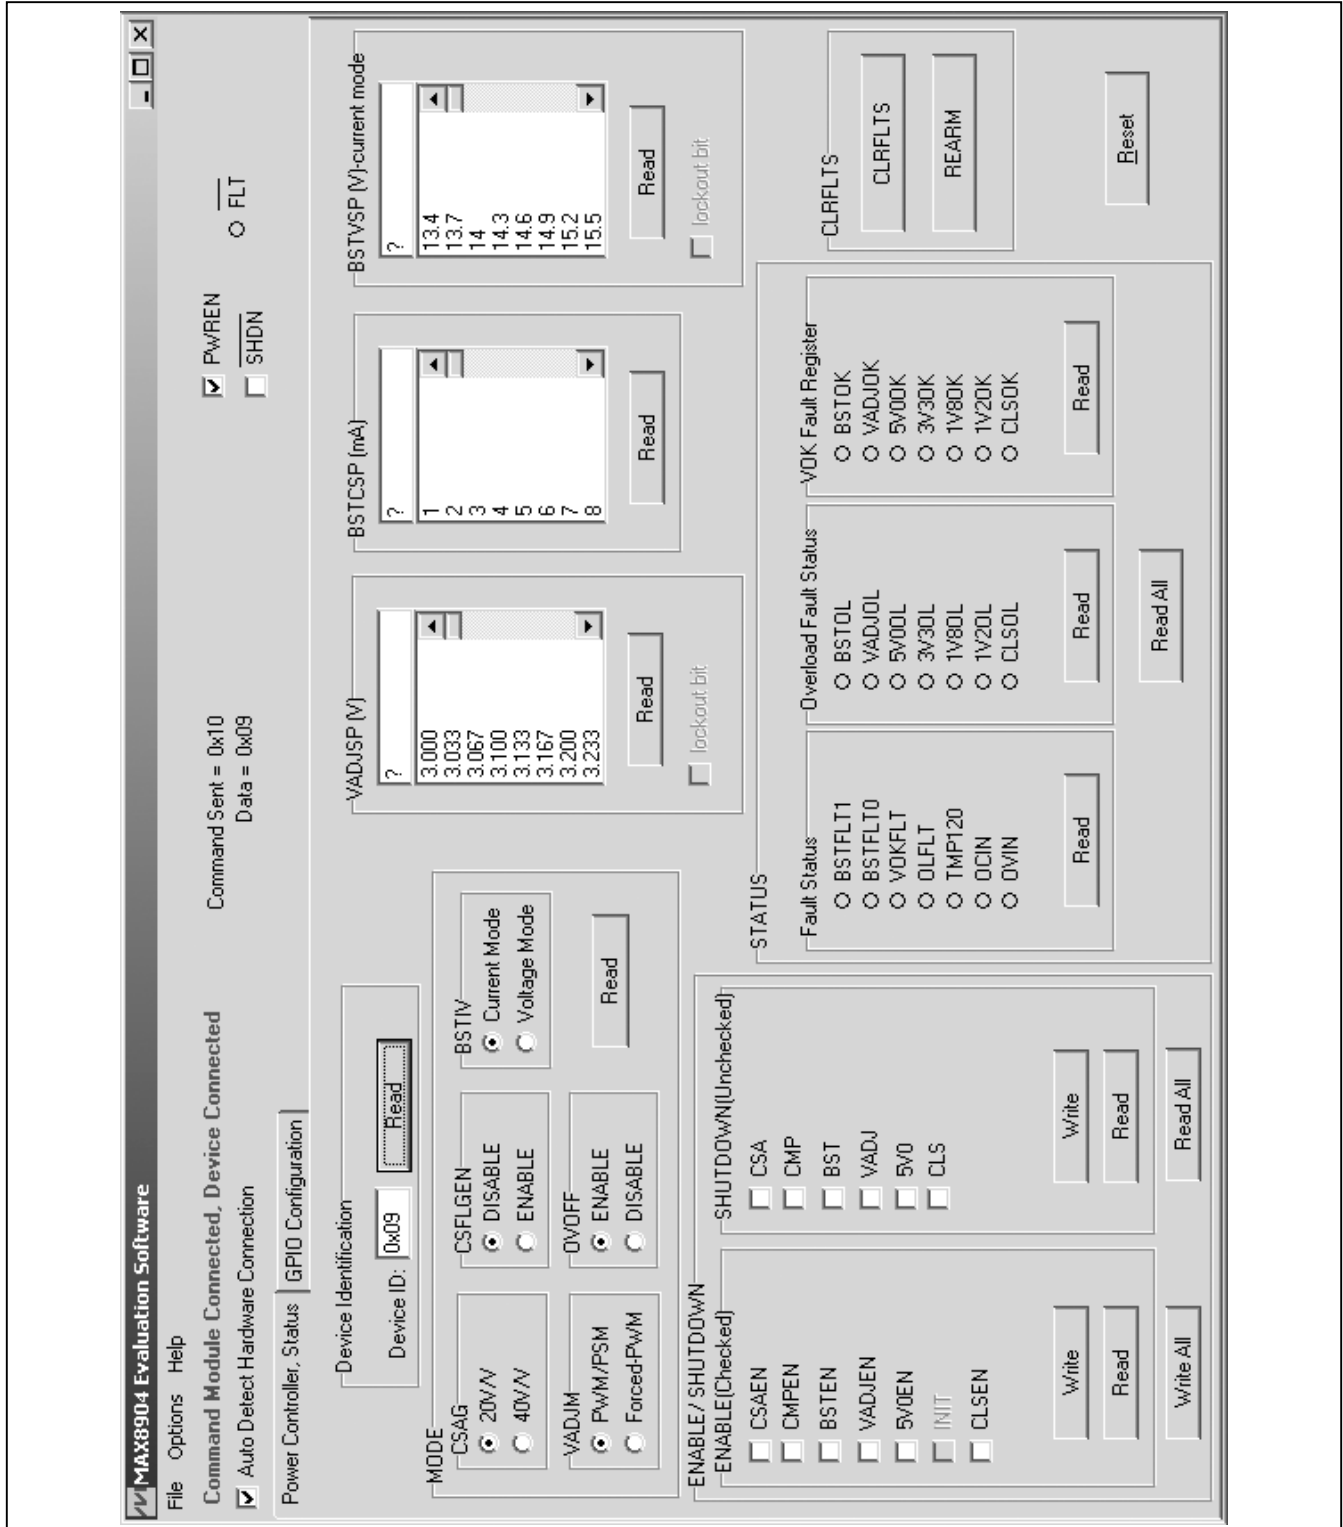
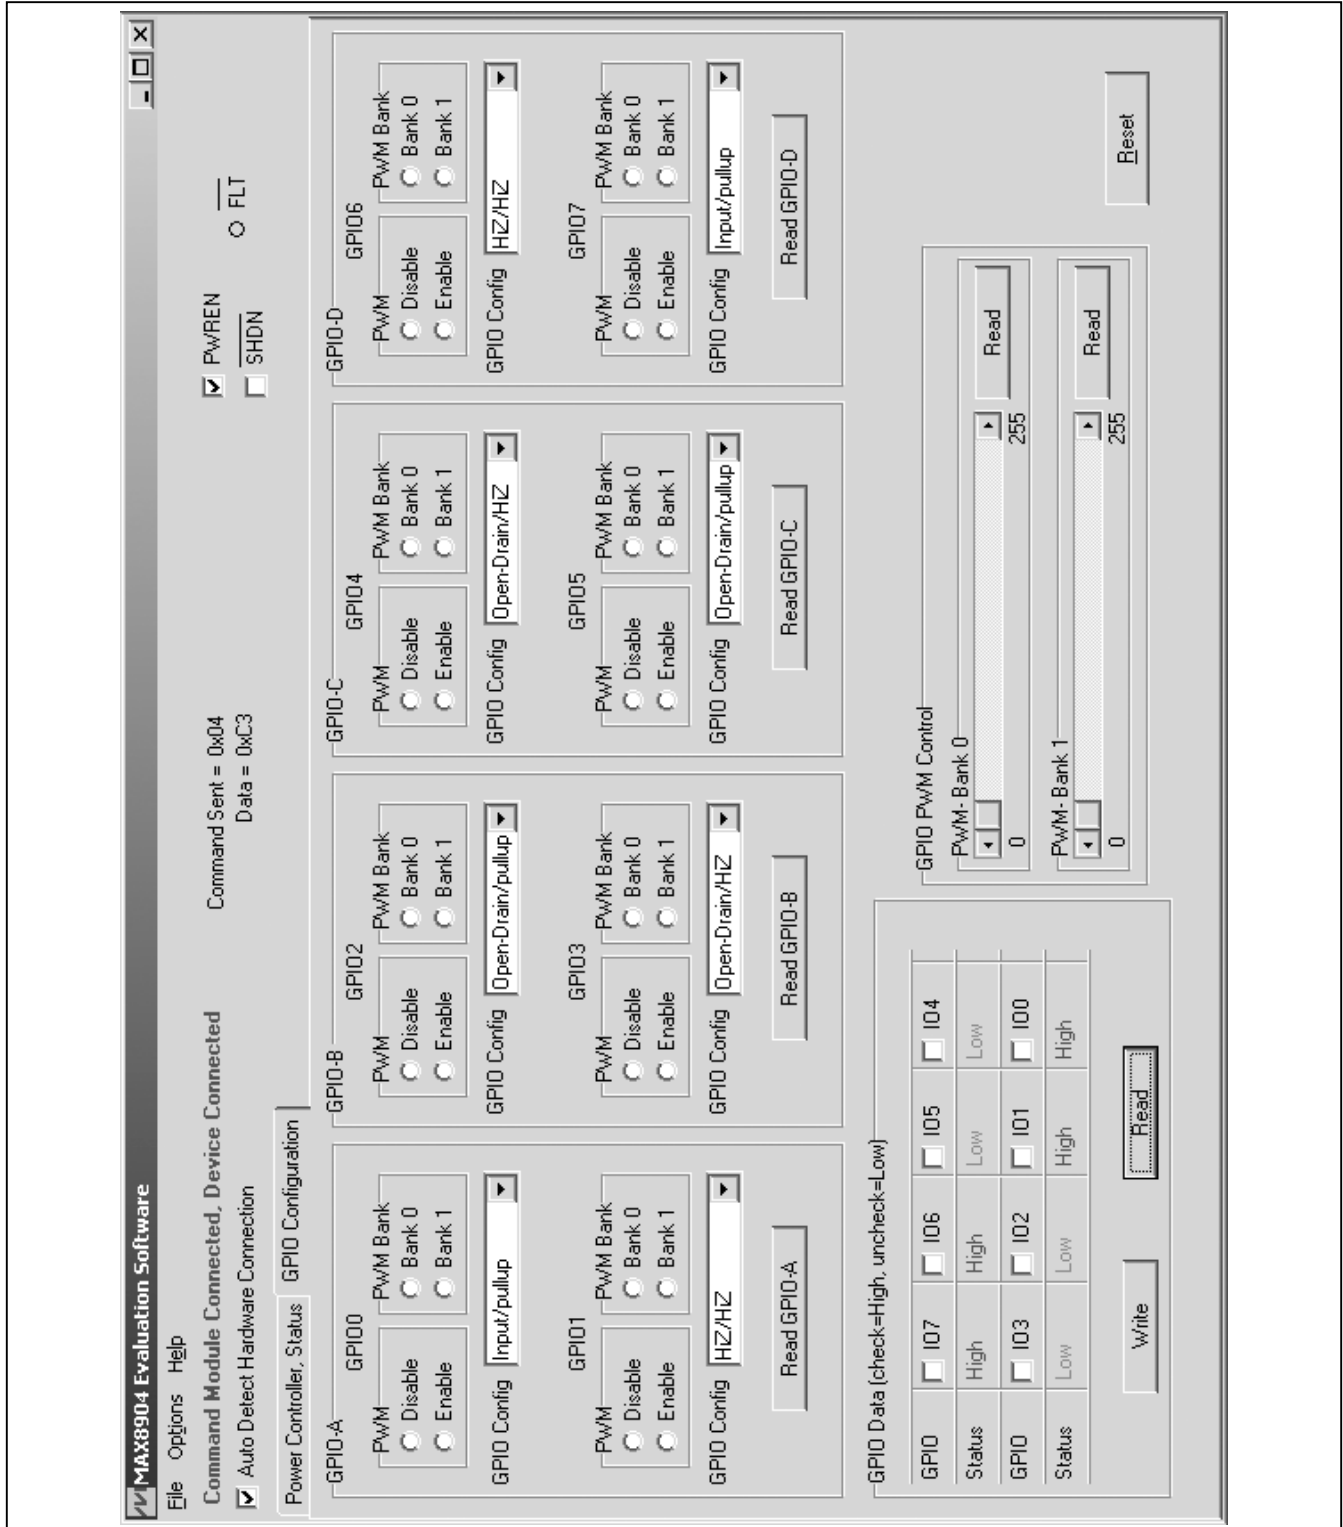
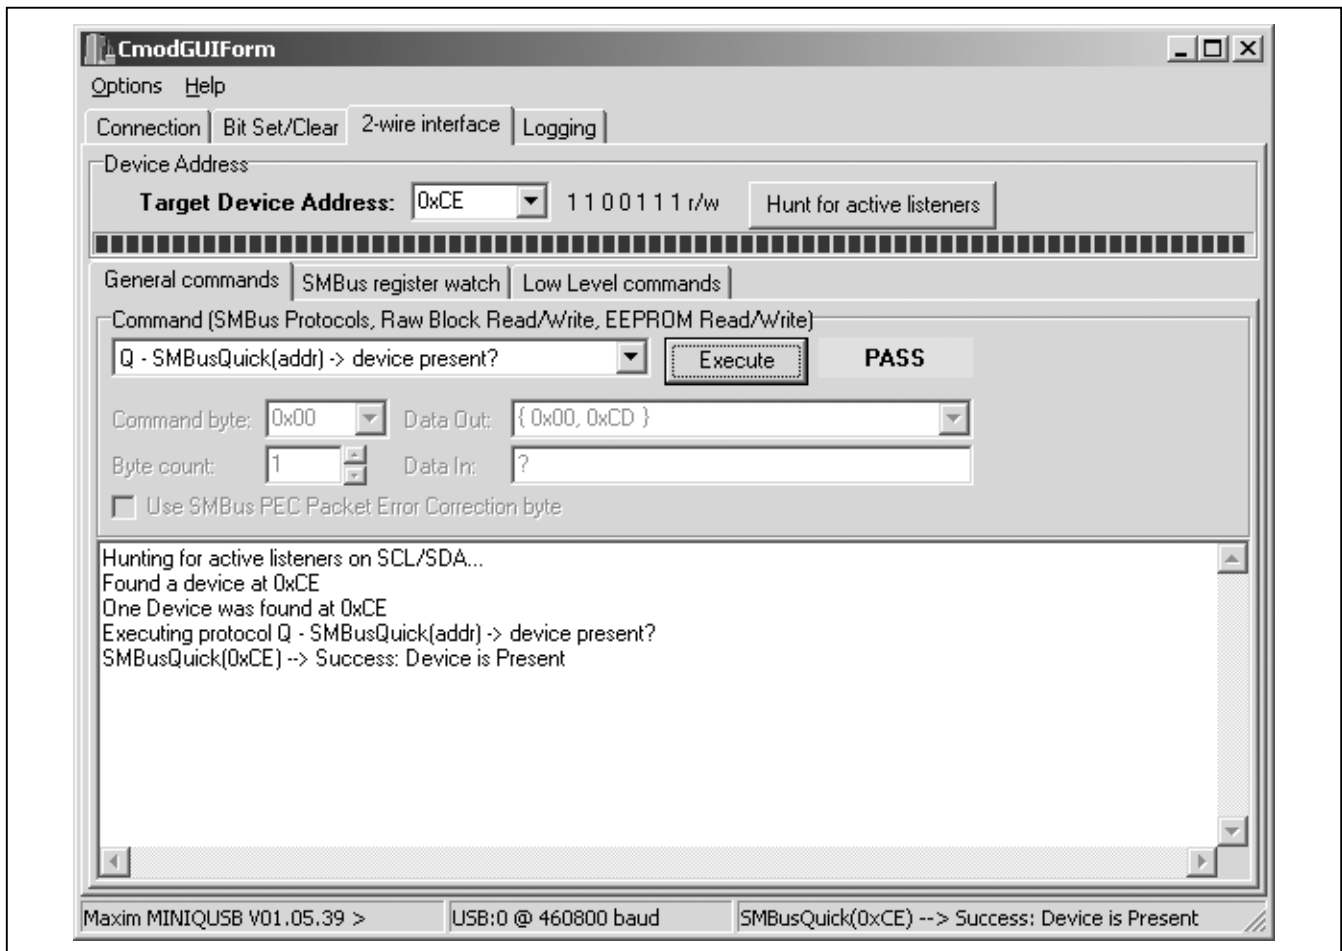

Figure 1. MAX8904 EV Kit Software (Power Controller, Status Tab)
Figure 2. GPIO Configuration Tab
Figure 3. Maxim Command Module Interface (CmodGUIForm) Window
- 9) Start the MAX8904 program by opening its icon in the **Start | Programs** menu. The EV kit software main window appears, as shown in Figure 1.
- 10) Normal device operation is verified when **Command Module Connected, Device Connected** is displayed at the top-left side of the MAX8904 EV kit main window (Figure 1).
- 15) Choose 4.000 from the **VADJSP (V)** group box to set the ADJ output voltage to 4V and check the **VADJEN** checkbox and press the **Write** button in the **ENABLE/SHUTDOWN** group box to turn on the ADJ step-down converter.
- 18) Choose 10 from the **BSTCSP (mA)** group box to set the LED current to 10mA. Choose **32** from the **BSTVSP (V)-current mode** group box to set the overvoltage threshold for BST current-mode operation to 32V. Check the **BSTEN** checkbox and press the **Write** button in the **ENABLE/SHUTDOWN** group box to turn on the BST step-up converter.
- 20) Switch to the **GPIO Configuration** tab, as shown in Figure 2. Choose **Open-Drain/HiZ** from the **GPIO Config** drop-down list for GPIO4–GPIO7.
There are two methods for communicating with the MAX8904, through the normal user-interface panel (Figure 1), or through the SMBus commands available by choosing the **Options | 2-wire Interface** menu item from the menu bar. The I²C/SMBus commands allow low-level I²C commands to be sent and are typically used for debugging purposes. The **Maxim Command Module Interface (CmodGUIForm)** window (Figure 3) pops up and includes a **2-wire interface** tab that allows for execution of the simple I²C commands.
The **SMBus dialog** boxes accept numeric data in binary, decimal, or hexadecimal. Hexadecimal numbers should be prefixed by \$ or 0x. Binary numbers must be exactly eight digits. See Figure 3 for an illustration of this tool.